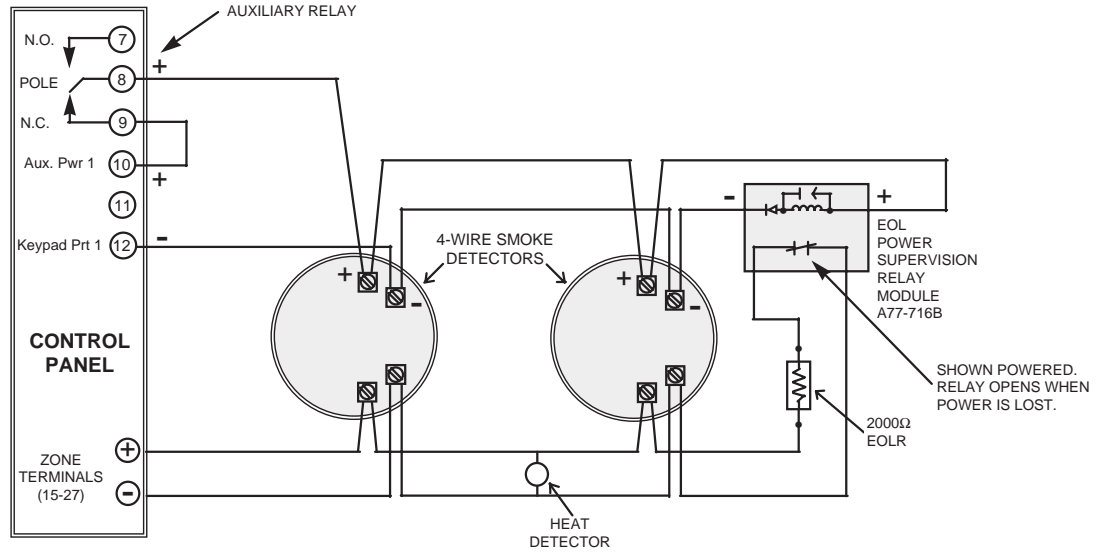

Figure 6-2: 4-Wire Smoke Detector Connections (Zones 1-8)
1. Connect 12-volt power for the detectors as follows: Wire the [+] side of Auxiliary Power (Terminal 10) to the N.C. contact of the Aux. Relay (Terminal 9). Wire the Pole of the Aux Relay (Terminal 8) to the [+] Power side of the smoke detector. Connect the [-] side of the smoke detector to [-] Aux. Power (Terminal 12). Observe proper polarity when connecting detectors (see *Figure 6-2*).
Power to 4-wire smoke detectors must be supervised with an EOL device (use a System Sensor A77-716B EOL Relay Module connected as shown in *Figure 6-2*).
2. Connect detectors (including heat detectors, if used) across terminals of the zone selected. See Figure 6-2. All detectors must be wired in parallel. Remove the 2000-ohm EOL resistor if connected across the selected zone terminals. **You must connect the EOL resistor across the loop wires at the last detector.**